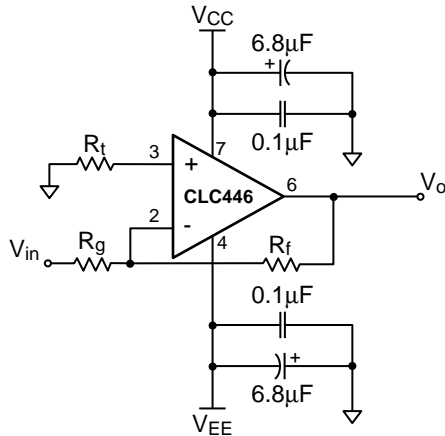

Figure 2: Inverting Gain
The inverting DC voltage gain for the configuration shown in Figure 2 is  $A_v = -\frac{R_f}{R_g}$ .
- Place a 50 to 200 $\Omega$  resistor between the non-inverting pin and ground (see  $R_t$  in Figure 2)